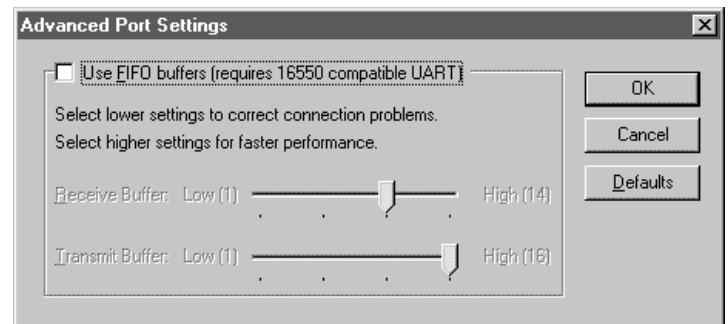

Figure 9-2: Advanced Port Settings Dialog Box
12. This should bring up the dialog shown in Figure 9-2.